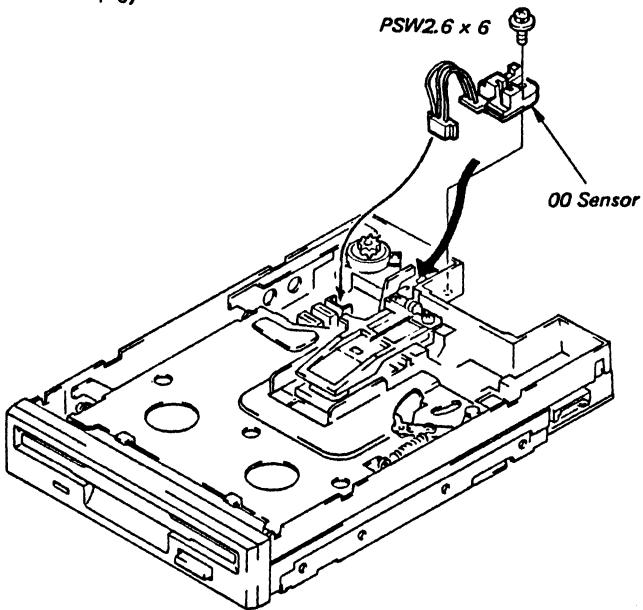

Fig. 4-8 OO Sensor Replacement
- d. Remove the screw (PSW2.6x6) securing the OO Sensor and remove OO Sensor. (Refer to Fig. 4-8)